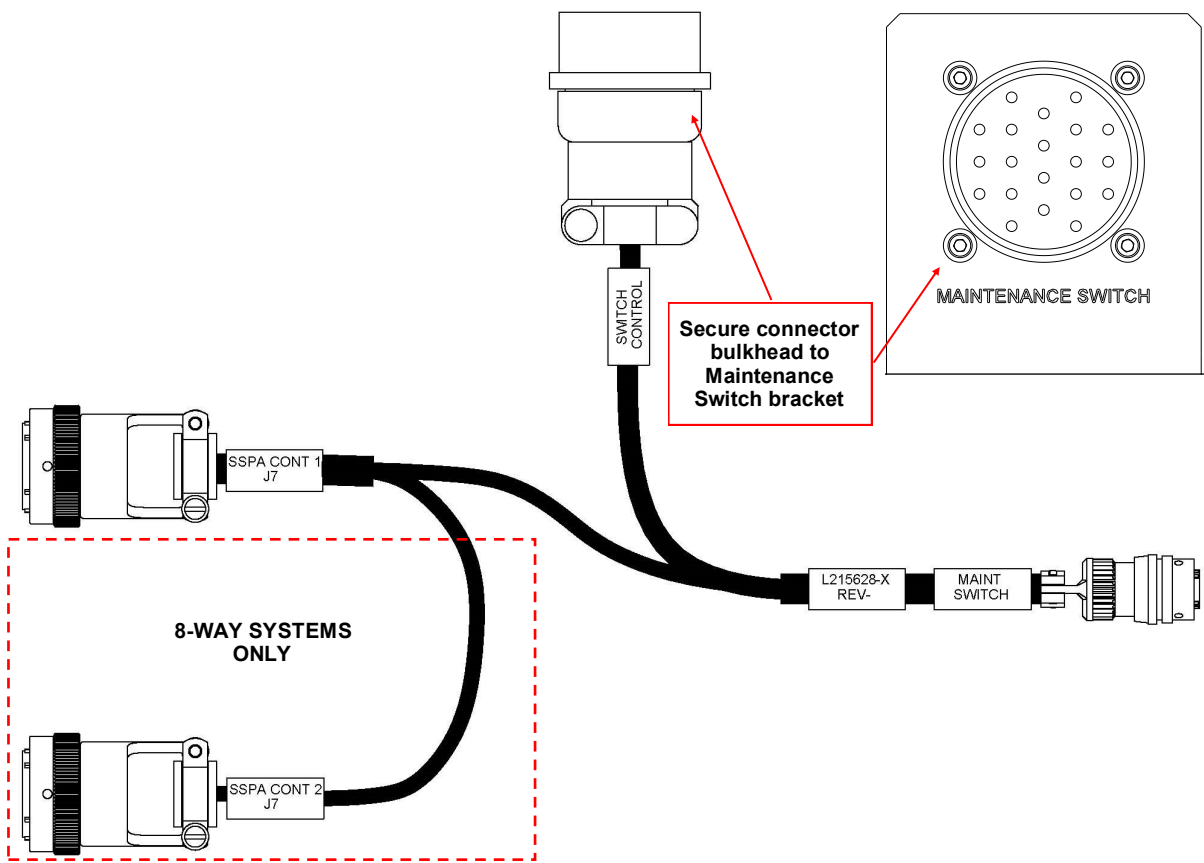

Figure 2-29: Optional Switch Mute Cable
This cable has labels affixed near the connectors to identify to which port that connect- or should be plugged. See **Figure 2-29**. Connect between port J7 of the two (2) Outdoor SSPA Controllers (Controller 1 and Controller 2 for 8-Way systems; just Controller 1 for 4-Way systems) and the circular MIL connector of the optional switch.